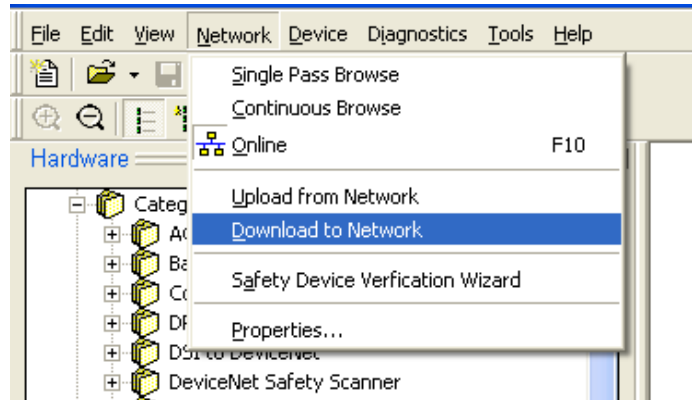

Figure 5-21: Network Download Confirmation Prompt
- Download the configuration to the scanner card, in order to commission the network. In the prompt that appears (Figure 5-21), click Yes to continue. Note that some scanner cards may require power down for changes to take effect.